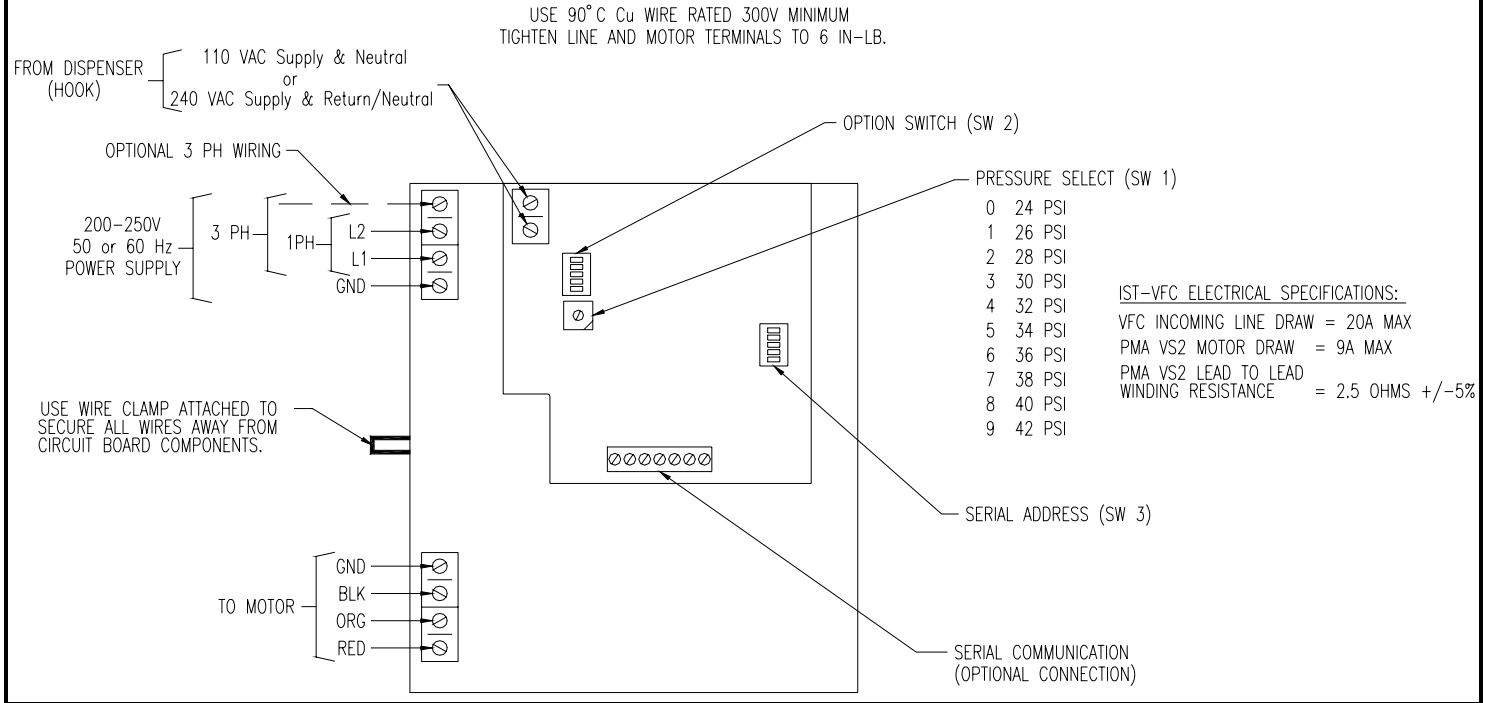

Figure 1
4b) Per Figure 1, connect the three motor control wires from the pump junction box to labeled terminals near the bottom of the IST-VFC circuit board observing color coding of wires (B-B, O-O, R-R). Connect the ground wire from the submersible pump to the ground lug on the IST-VFC circuit board. Secure wires away from circuit board components using the wire clamp attached to enclosure.
4c) Connect single or three phase, 200-250V, 50 or 60Hz power supply to terminals as detailed in Figure 1 (three phase power is recommended if available). Single-phase power is connected to L1 and L2; three-phase power is connected to L1, L2 and L3. Secure wires away from circuit board components using the wire clamp attached to the enclosure. Reference Figure 1 for wiring detail.
4d) Connect dispenser hook signal to the two position terminal strip on the IST-VFC board as detailed in Figure 1. Secure wires away from circuit board components using the wire clamp attached to enclosure.
5) **OPTION SELECT SWITCH - (SW2)** (See FIGURE 1)
- 9c) If output is above or below the desired range (i.e. 8-10 GPM), remove the IST-VFC cover and adjust the rotary switch (SW1), see Figure 1. This switch will increase or decrease the system operating pressure according to Table 6. An increase in pressure will normally yield an increase in flow rate; a decrease in pressure will reduce flow rate. Replace the IST-VFC cover and re-apply input voltage. Return to step 9b above and check GPM with the new settings. Repeat until the output obtained is within your desired range in GPM.